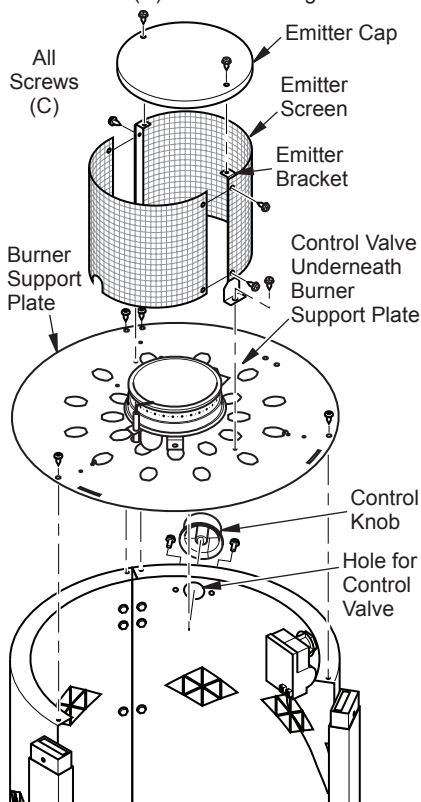

Figure 5 - Assembling Emitter and Attaching Burner Support Plate
7. Attach control valve bracket to table control panel with 2 screws (C). Attach control knob to control valve from outside of heater. See Figure 5.
8. Attach burner support plate to panels with 4 screws (C) (see Figure 5).
9. Attach emitter screens to emitter brackets with 4 screws (C) as shown in the Figure 5.
10. Attach emitter cap to emitter brackets with 2 screws (C) as shown in Figure 5.
11. Attach emitter assembly to burner support plate with 2 screws (C) (see Figure 5).